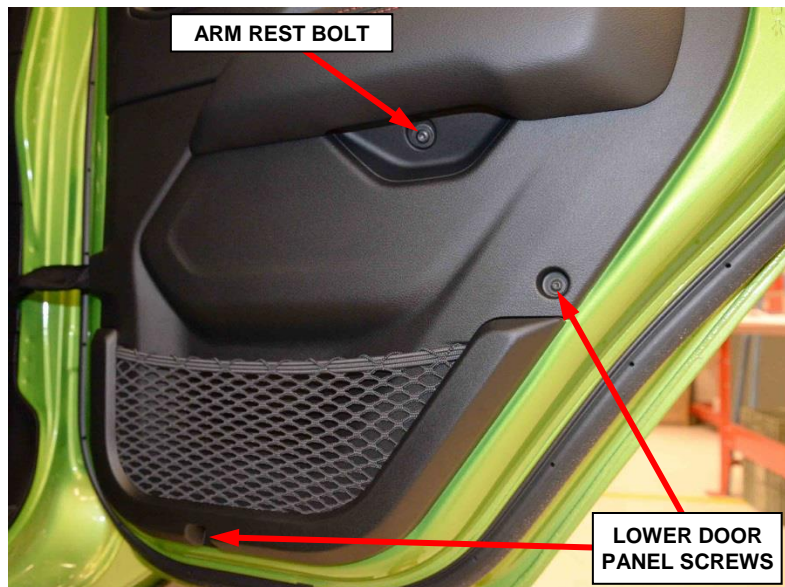

Figure 10 – Arm Rest and Door Panel Fasteners
14. Remove the armrest bolt (Figure 10).
15. Remove the two lower screws from the door panel (Figure 10).